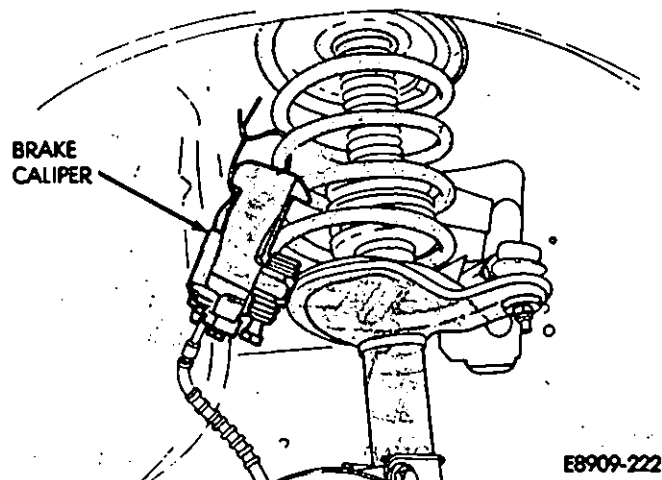

Fig. 16—Hang Brake Caliper
(47) Remove the brake calipers and disc pads (refer to Group 5, "Brakes" for the proper procedure).
(48) Use mechanics wire to hang the calipers in the strut springs (Fig. 16).